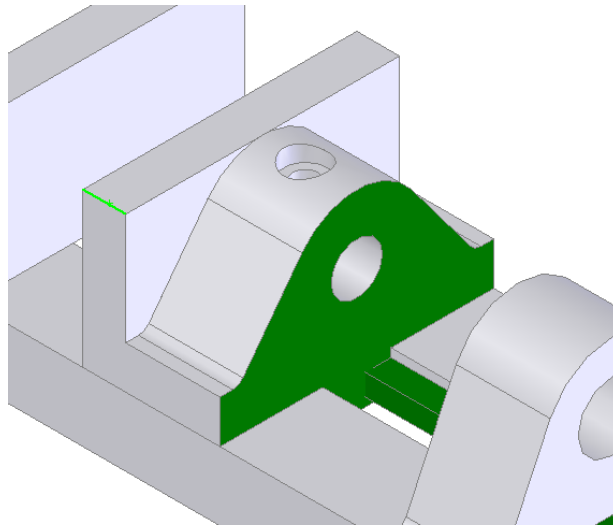

Figure 11-62 Faces of the Vice jaw and the Vice body highlighted in green
3. When you move the Vice jaw in the specified direction, you will observe that the right face of the Vice jaw and the extrusion feature of the Vice body are highlighted in green as shown in Figure 11-62.